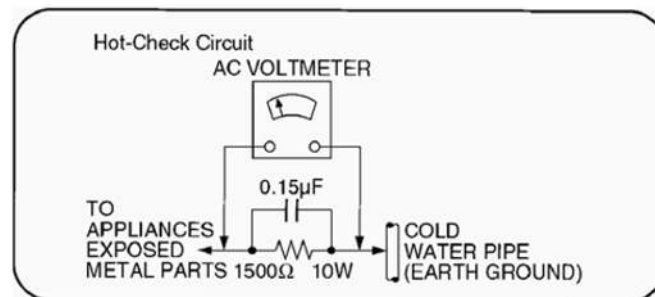

Figure 1
3.1.2. Leakage Current Hot Check (See Figure 1)
2. Connect a $1.5\text{k}\Omega$, 10 watts resistor, in parallel with a $0.15\mu\text{F}$ capacitor, between each exposed metallic part on the set and a good earth ground such as a water pipe, as shown in Figure 1.